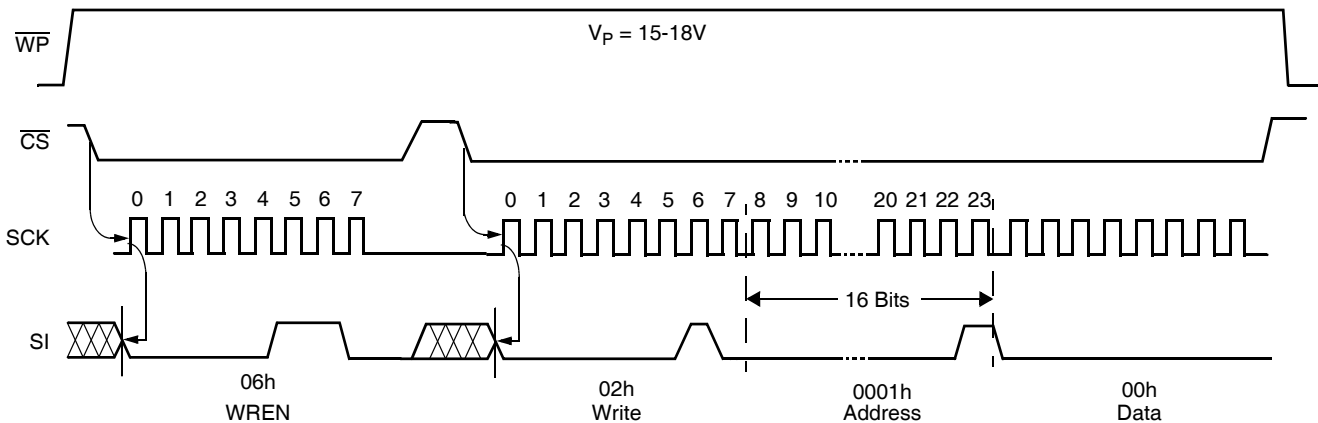

FIGURE 1. SET V_{TRIP} LEVEL SEQUENCE ($V_{CC} =$ DESIRED V_{TRIP} VALUE)
0000 0001	<p>Write status instruction—followed by: Block lock/WDT byte: (See Figure 1) 000WD₁ WD₂000 --->no block lock: 00h-00h--->none of the array 000WD₁ WD₂001 --->block lock Q1: 0000h-00FFh--->lower quadrant (Q1) 000WD₁ WD₂010 --->block lock Q2: 0100h-01FFh--->Q2 000WD₁ WD₂011 --->block lock Q3: 0200h-02FFh--->Q3 000WD₁ WD₂100 --->block lock Q4: 0300h-03FFh--->upper quadrant (Q4) 000WD₁ WD₂101 --->block lock H1: 0000h-01FFh--->lower half of the array (H1) 000WD₁ WD₂110 --->block lock P0: 0000h-000Fh--->lower page (P0) 000WD₁ WD₂111 --->block lock Pn: 03F0h-03FFh--->upper page (PN)</p>